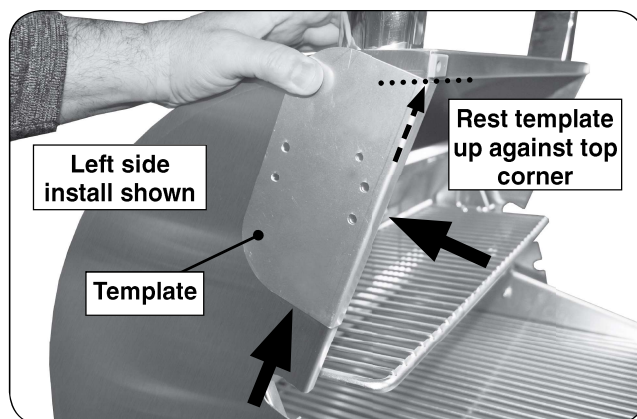

Fig. 1-1 Place drilling template (on hood)
2. Open oven hood and place the stainless steel drilling template onto the oven hood as shown in Fig. 1-1. Ensure the template is fully pressed against the hood side bottom flange and against the top corner of hood.